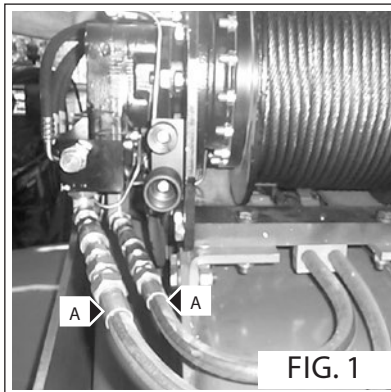

FIG. 1
- Collegare i raccordi idraulici all'argano (Fig. 1 - Rif. A).
- Connect the hydraulic fittings to the winch (Fig. 1 - Ref. A).
- Sluit de hydraulische leidingen aan op de lier (Fig.1 - Ref.A).